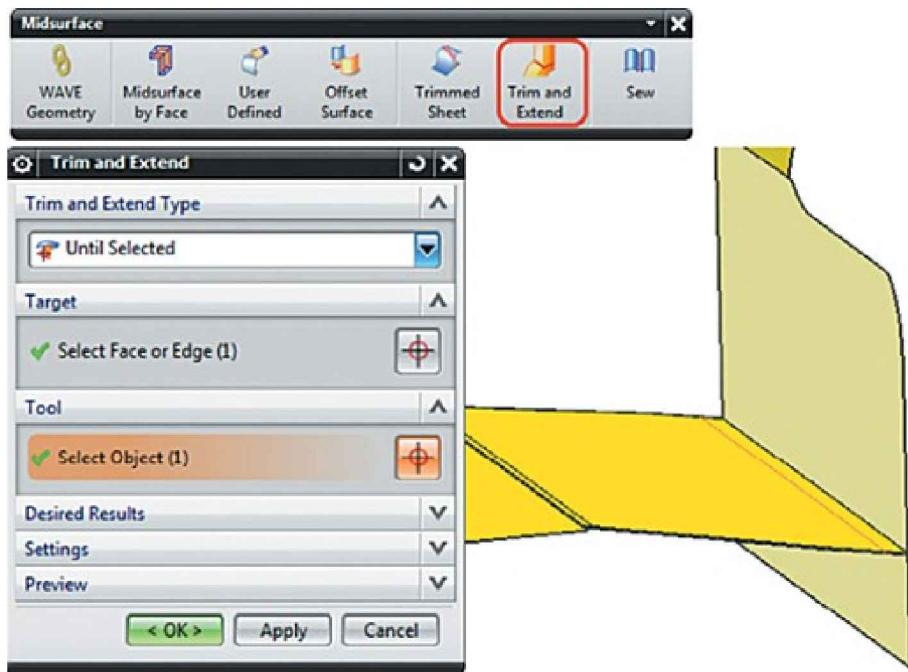

Figure 2.28. Trim and Extend
4. Click **Trim and Extend** on the Midsurface toolbar. In the **Trim and Extend** dialog box (Figure 2.28), do the following: